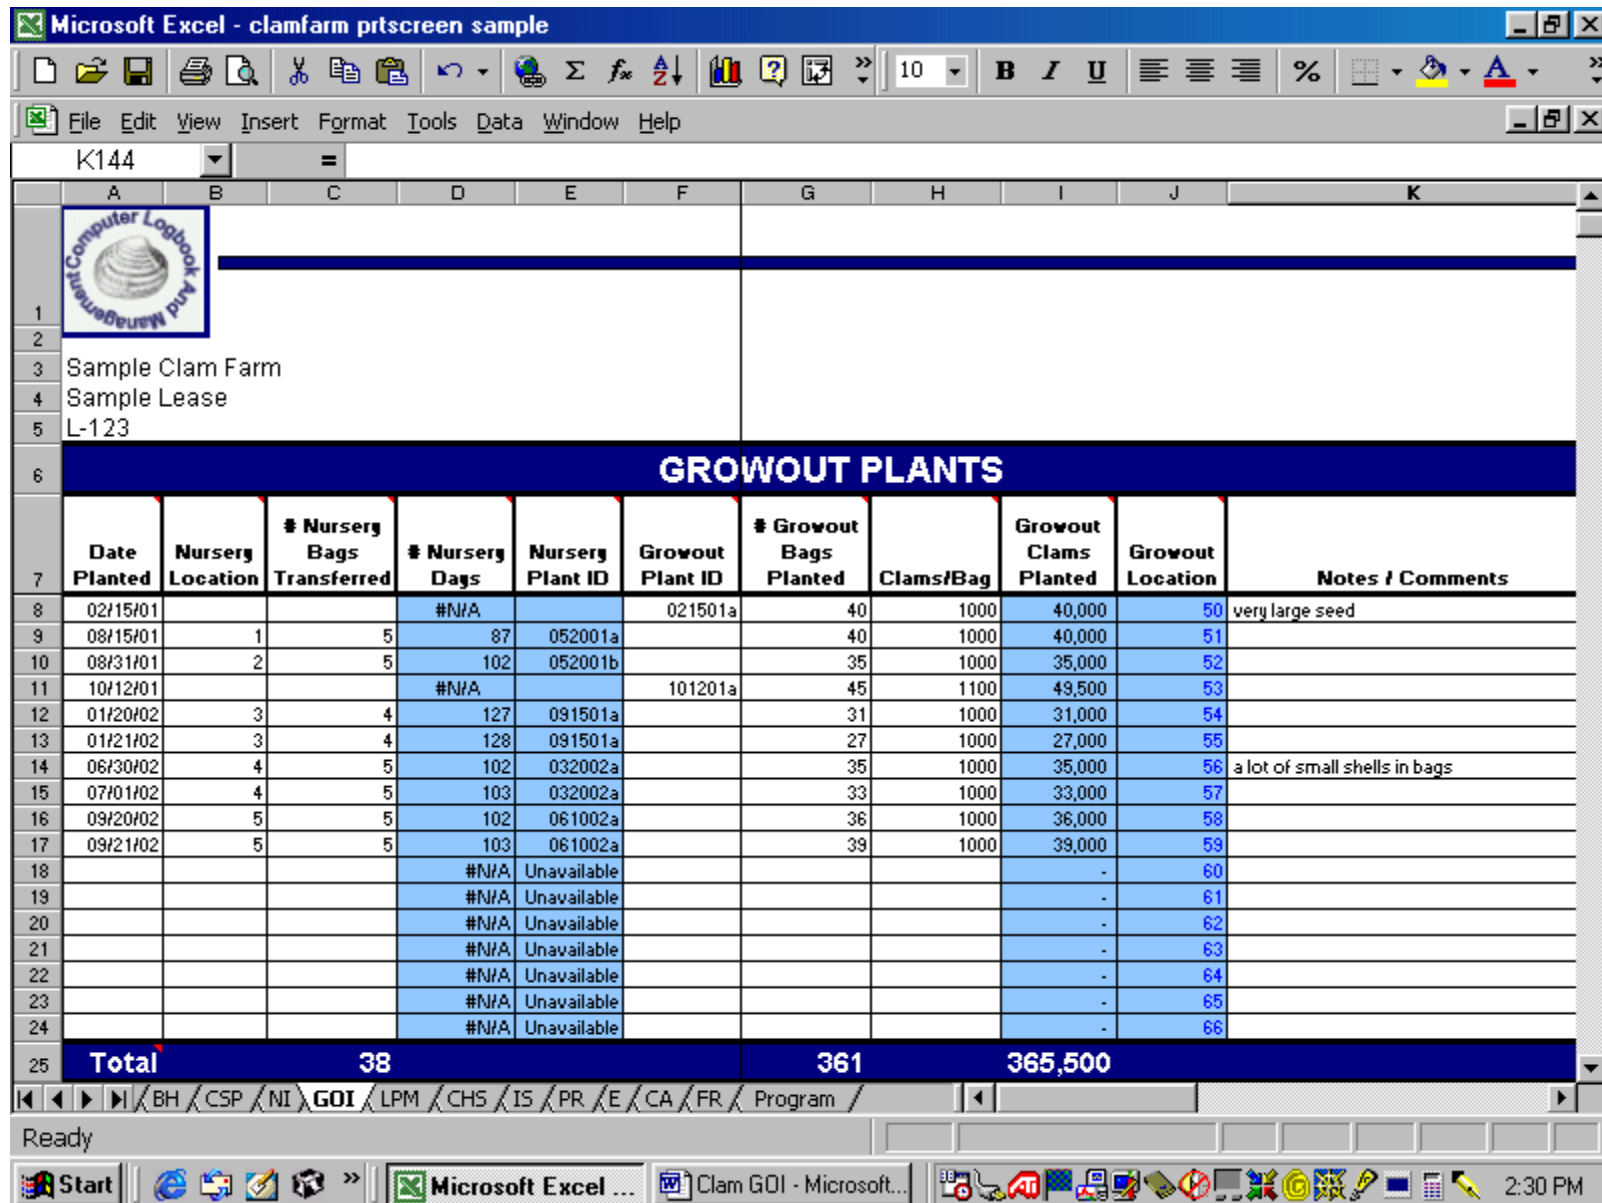

Figure 7.
**This module provides information needed by the user to describe seed planted in growout bags. (see Figure 7)**